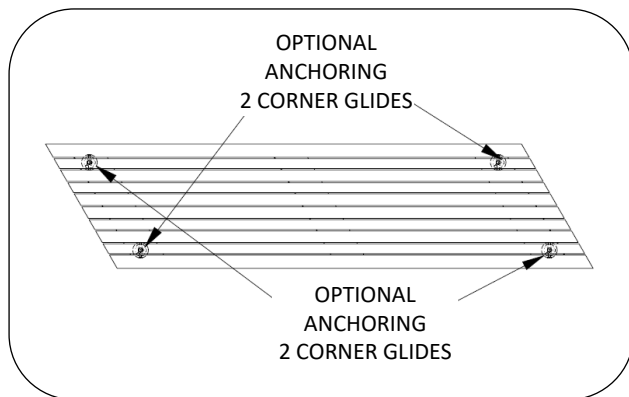

Fig. 1
1. Set bench into position and adjust glides as necessary. Trace around 2 glides on opposite corners, see Fig. 1., to mark hole locations.